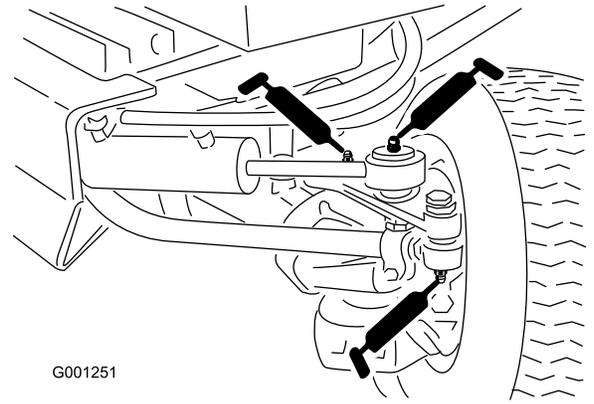

Figure 43
- Tie-rod ends (2) (Figure 43)
- Cylinder-rod ends (2) (Figure 43)
- Steering pivots (2) (Figure 43)
- Axle-pivot pin (Figure 43)